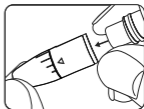

Figure 23
**STEP 1:** Remove the cap of the lancing device by twisting it off. See Figure 23.